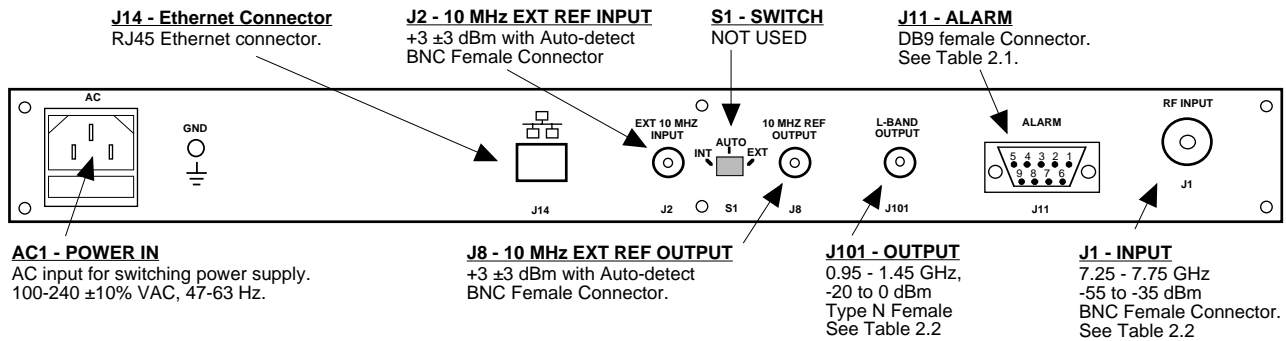

FIGURE 2.1 3116-72 Rear Panel I/O's
Figure 2.1 shows the input and output connectors on the rear panel.
1. Connect a -55 dBm to -35 dBm signal to RF IN, J1 (Figure 2.1).